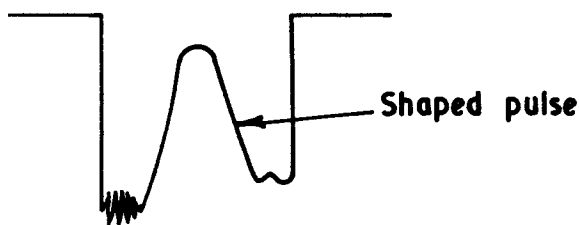

Figure 6-9g
d. Set the oscilloscope MODE switch to CHOPPED. Using the A time base, set the oscilloscope controls to observe the waveshape shown in Figure 6-9g.